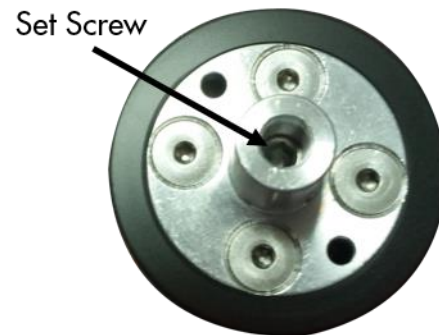

Fig. 4
3. Locate the set screw in the shaft, then insert a 7/64" hex key into the set screw. Loosen or tighten as required. (Fig. 4)